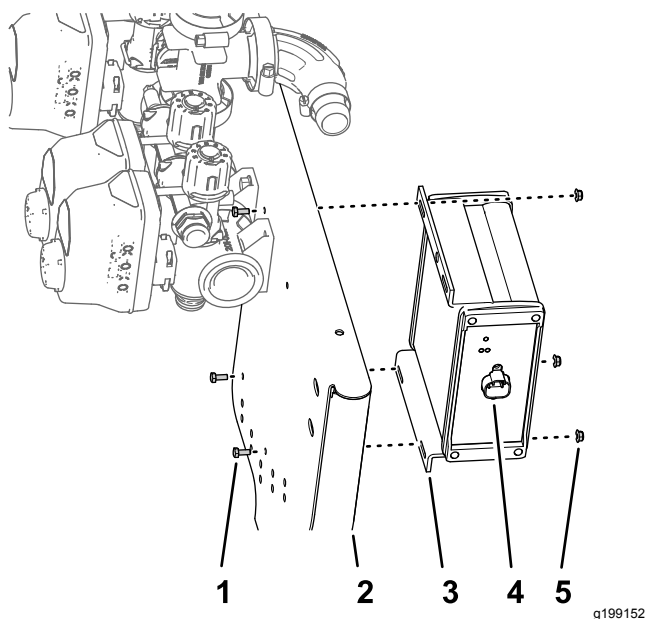

Figure 97
1. Align the ASC 10 sprayer controller to the forward side of the valve mount with the 4-pin connector outward (Figure 97).
2. Assemble the sprayer controller to the valve mount (Figure 97) with the 3 bolts (4 x 10 mm) and 3 flange locknuts (4 mm).